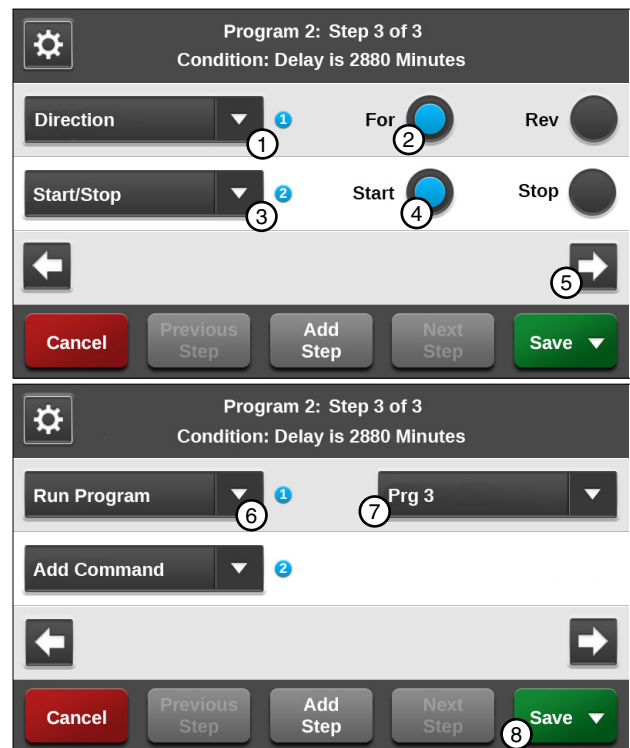

Figure 131-2 1. Direction Command 2. Forward 3. Start/Stop Command 4. Start 5. Next 6. Run Program Command 7. Choose Program Drop-Down 8. Save
- f) Select the **Add Command** drop-down menu and choose **Direction**. Refer to Figure 131-2.
9. Finish the program by selecting one of the following. Refer to Figure 131-2.